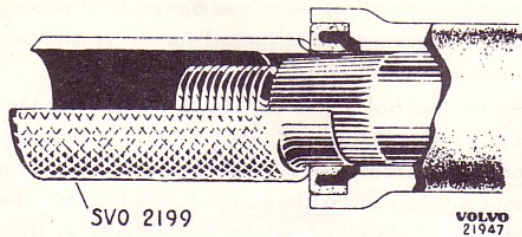

Fig. 38. Fitting the pitman arm shaft.
6. Apply the protecting sleeve SVO 2199 as shown in Fig. 38 and fit the pitman arm shaft in the steering box housing. Oil the adjusting screw in the pitman arm shaft with a few drops of oil.